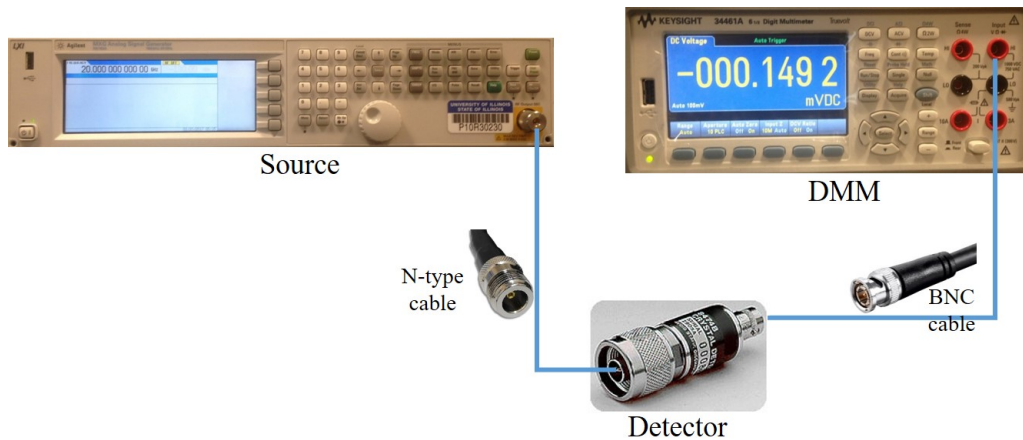

Figure 3: RF power measurement setup
1. Arrange the lab equipment as shown in Figure 3. The crystal detector can be directly connected to the microwave source to minimize the number of cables you need and eliminating the N-type cable. Set the source frequency to 600MHz. Obtain data to plot a curve of RF power -50dBm to 15dBm in 5dBm steps. Plot the data with the RF power (in dBm) on the linear x -axis and the DC voltage (in **millivolts**) on the y -axis (logarithmic scale).